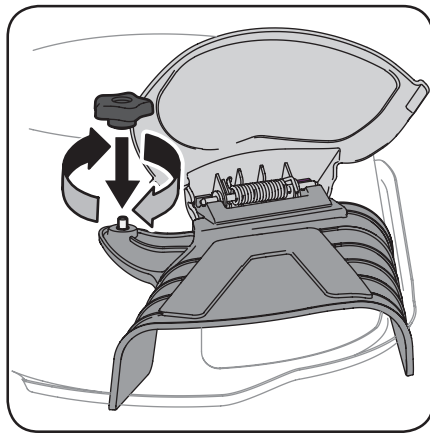

Figure 2-14
3. Secure the chute to the mowing deck using the wing knob included in the manual bag. Hand tighten the wing knob onto the deck stud. See Figure 2-14.